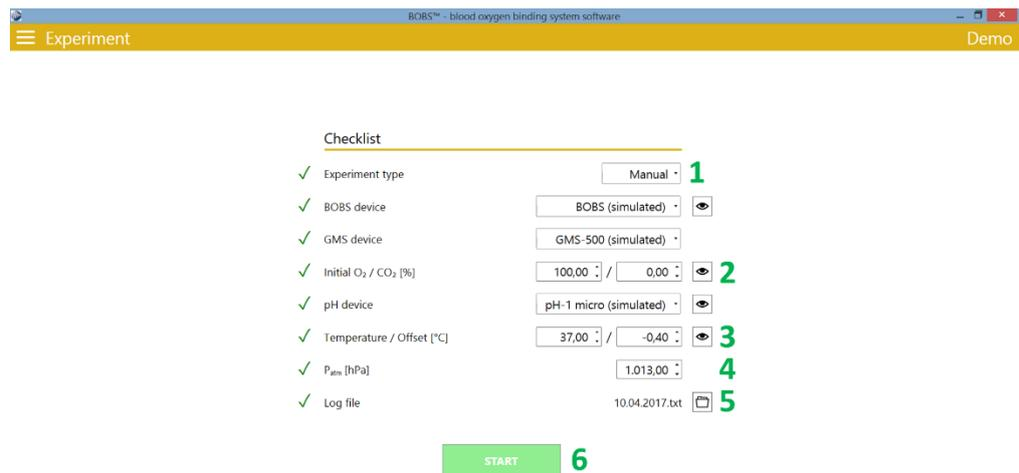

Figure 21: Manual experiment menu.
1. Choose the 'MANUAL' mode from the drop down field (1, Figure 21).
2. Set the initial gas concentrations, temperature and atmospheric pressure (2-4, Figure 21).
3. Choose the location for the log file (5, Figure 21).
4. Start the experiment (6, Figure 21).